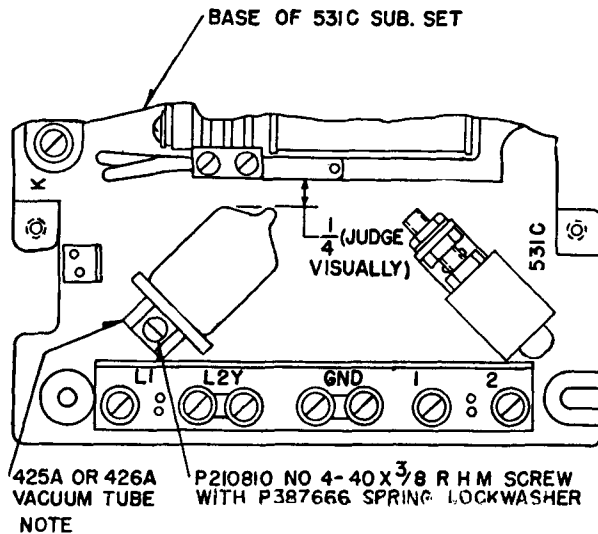

FIG 1
- 2.04 **Vacuum Tube:** If trouble in the vacuum tube is indicated by relay failure, short-circuit the yellow and black tube leads and note if relay operates when ringing voltage of the correct polarity is applied. If relay operates under this test the vacuum tube is defective and should be replaced. In sets of earlier manufacture, containing 372A vacuum tubes, the 426A tube may be used as replacement. The 426A tube may be mounted by using a round-head machine screw (P-210810) in the tapped hole located in the base of the set. (See Fig. 1.) When sets of earlier manufacture are returned to Western Electric Company shops, the bracket for mounting 372A tubes (P-479173) will be replaced with the bracket for mounting 426A tubes (P-13A283).